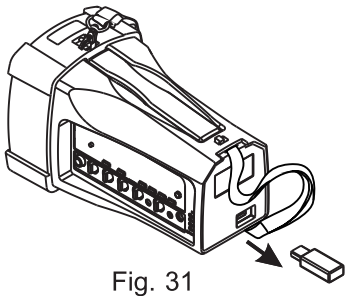

Fig. 31
- (A) Charge the battery completely in its first use to obtain its maximum capacity.
- (B) Connect to any available AC power outlet using the included DC adapter to the DC IN jack.
- (C) The Battery Charging Indicator **13** LED blinks while charging. Blinking LED may start later if the battery suffers from excessive battery drain. The battery may be damaged if the LED does not blink after charging for a while.
- (D) The battery is low when only the red LED is on. Please recharge the batter for at least 4 hours (the time of charging depends on the type of battery).
- (E) All LED blinking means the battery is charging. Charging completes when all LEDs glow.
- (F) Fully charge the battery for storage if it will not be used for an extended period of time. Battery may lose some capacity overtime. Over-discharged occurs and may damage the battery if not recharged for a long period of time. Thus, it is recommended to recharge often or every 3 months.
- (G) This device has 2 automatic power cut-off functions. Battery display will drop to red color for a period of time during low power status. Power will automatically shut-off to prevent battery operation. Recharge the battery immediately to avoid damage due to over-discharging.
- (H) Change to a new, fresh battery when battery hours are shortened after recharges due to battery aging.
- (I) All rechargeable batteries are consumables and have a limited lifespan, and eventually need to be replaced. A standard 14.8V lithium battery from MIPRO is recommended to ensure compatibility and performance.
(A) Lay the PA system on a flat surface. Remove the USB disk, Fig. 31.